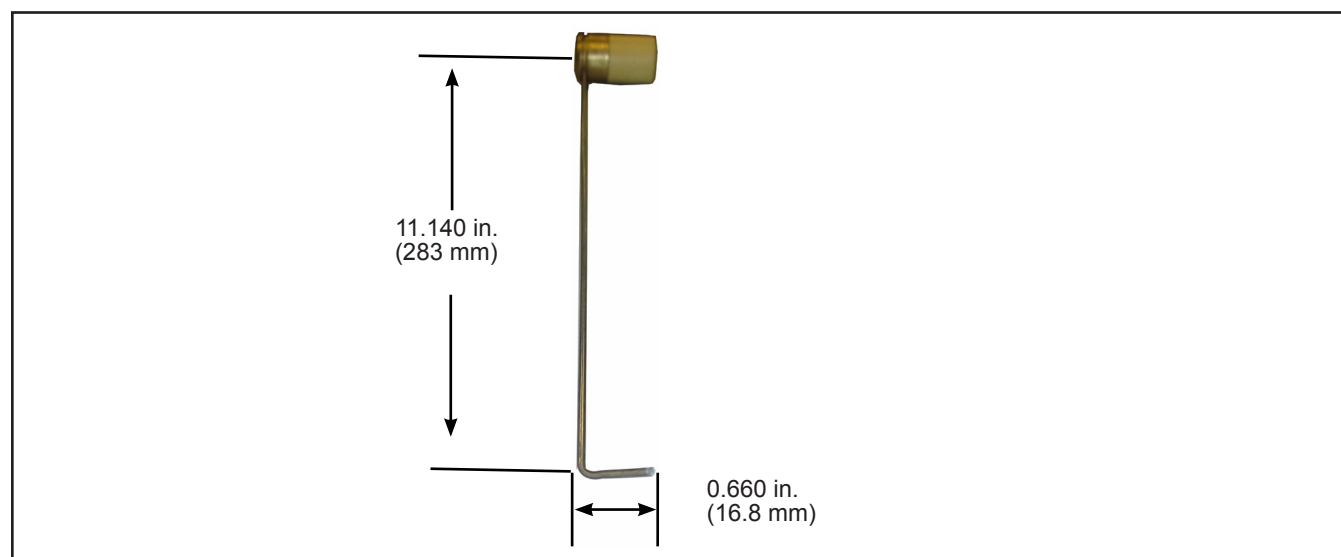

Figure 6 - Float Arm Preparation
1.10.2. Bend the float arm to the length specified in Figure 6.